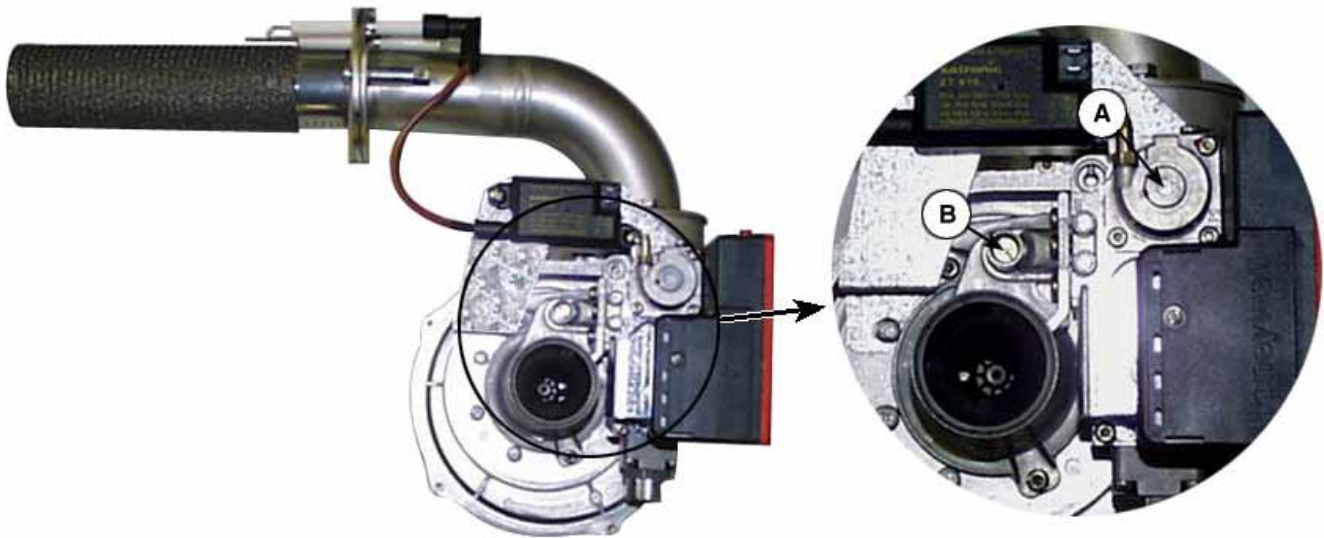

Figure 8.9.1
5. Turn the adjustment screw 'B' (see Fig 8.9.1) clockwise to decrease and counter-clockwise to increase the value, being careful to turn slowly until the correct CO_2 level is obtained.
5. remove the outer safety plug (Torx® T40) and turn the adjustment screw 'A' (see Fig 8.9.1) clockwise to increase and counter-clockwise to decrease the value, being careful to turn slowly until the correct CO_2 level is obtained